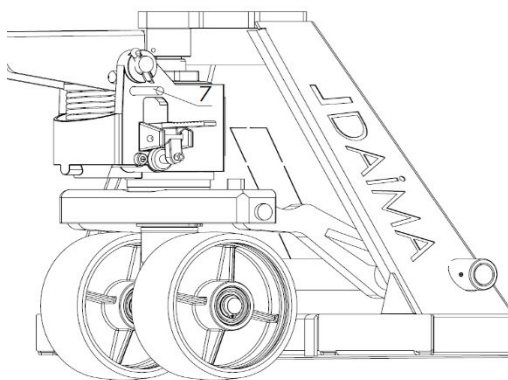

Figure 3
- Straighten the lift arm, then pull out the hydraulic pump spring retaining pin (See Figure 3, item 7) and store the pin for future use.